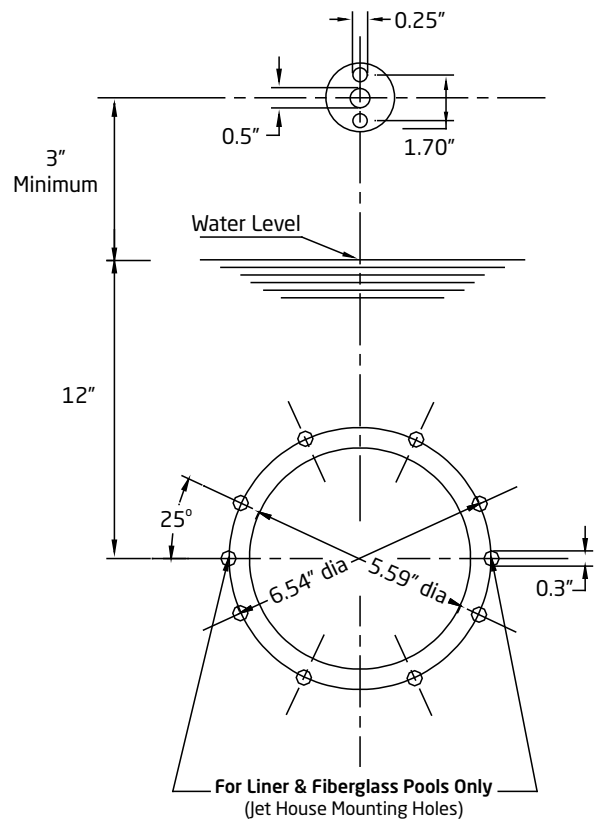

Figure 14
1. Using the clamping ring (*part #3*) as a template, drill holes in the pool wall for installation. The center line of the clamping ring should be 12" **BELOW** the water level (See *Figures 14 & 15*). Two additional holes will need to be drilled at the 3 and 9 o'clock positions for installation of the jet housing (*part #7*). The four brass inserts in the clamping ring should be at the 2, 4, 8 and 10 o'clock positions (See *Figure 14*).
2. Mount the housing (*part #7*) and one clamping ring gasket (*part #12*) on **BEHIND** the pool wall using two (2) #14 x 1" counter sunk screws (*part #27*). Install the screws from the inside of the pool wall through the holes drilled at 3 and 9 o'clock positions. (See *Figure 14*)
3. Install the clamping ring (*part #3*) and a second clamping ring gasket (*part #12*) in **FRONT** of the pool wall using eight (8) M6 screws (*part # 9/2, 9/3, or 9/4*). Screw lengths vary depending on the installation. *NOTE: A good RTV silicone may be used with the gasket when mounting the jet housing, but in most cases is not necessary. Installer should decided whether or not the silicone is necessary.*
4. For the air regulator assembly, one 1/2" hole must be provided, preferably along the vertical axis, approximately 3-4" **ABOVE** the water line. (See *Figures 14 & 15*). Using the 60 x 11 x 2mm air regulator gasket (*part #21*), mark and drill two 1/4" mounting holes (See *Figure 14*). Use the two (2) 1/4 - 20 air holder screws (*part #18*) and two 1/4-20 air holder nuts (*part #19*) to mount the air regulator holder.
For Steel Walled Pools: An optional butterfly gasket (*part #12.1*) maybe purchased to replace the two (2) clamping ring gaskets (*part #12*). Increase the jet housing hole in *Figure 14* from 5.59" to 5.75" for installation.